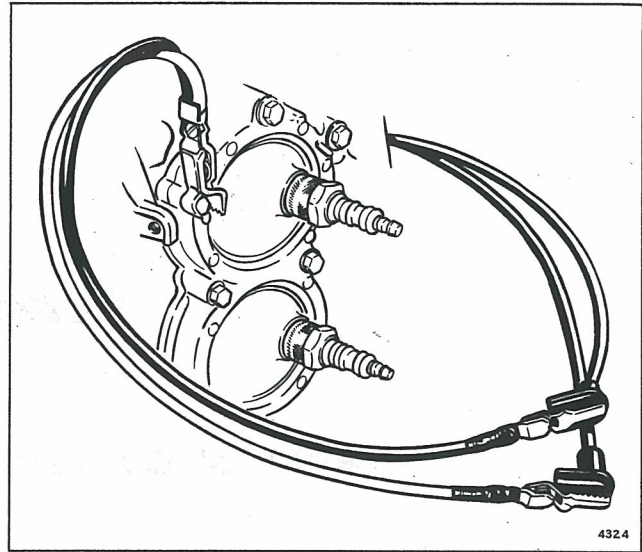
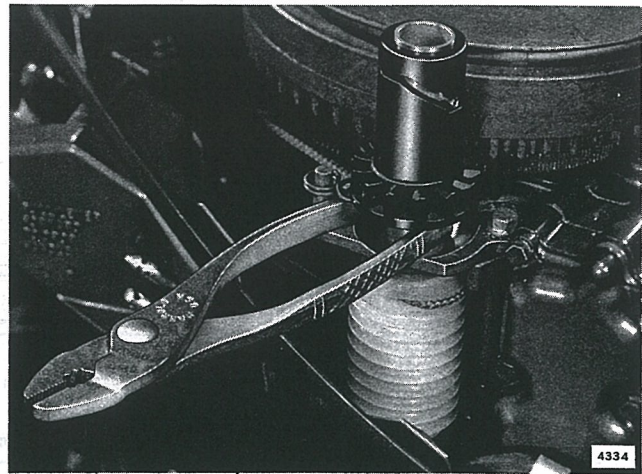

Figure 7-2. Grounding High Tension Leads
Figure 7-3. Pinion Gear Locked to Ring Gear
a. Remove high tension leads from spark plugs, and ground high tension leads. See Figure 7-2. Pull starter rope out until it is fully extended, then allow rope to retract (less than one revolution) until knot on spool faces port side of motor. Lock starter in this position by lifting starter pinion gear to engage flywheel ring gear, and holding in place with handle of pliers. See Figure 7-3.